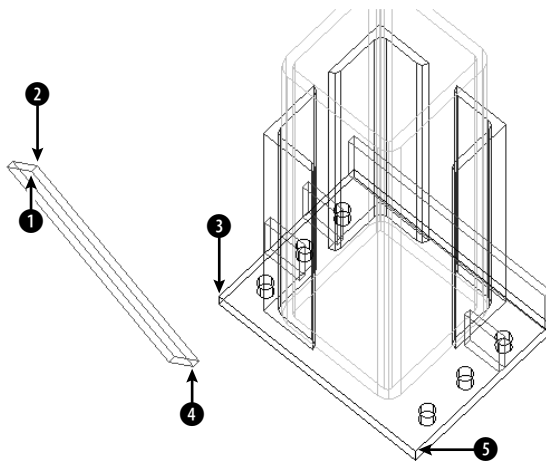

**Figure 24-39:** Part of a base assembly for an industrial washer with a sidebar that needs to be moved and rotated into place.
2. Save the file as `ab24-13.dwg` in your AutoCAD Bible folder. You see part of the base assembly for an industrial washer, as shown in Figure 24-39. One sidebar needs to be moved and rotated into place. Make sure that OSNAP is on; set a running object snap for endpoint.
3. Notice that it's hard to tell which way the sidebar is facing because it's displayed in wireframe. Change the visual style to 3D Hidden (View ⇄ Visual Styles ⇄ 3D Hidden). You can now see that ① in Figure 24-39 is facing away from you. Switch back to the 3D Wireframe visual style.
Specify base point or [Copy]: *Pick ① in Figure 24-39.*